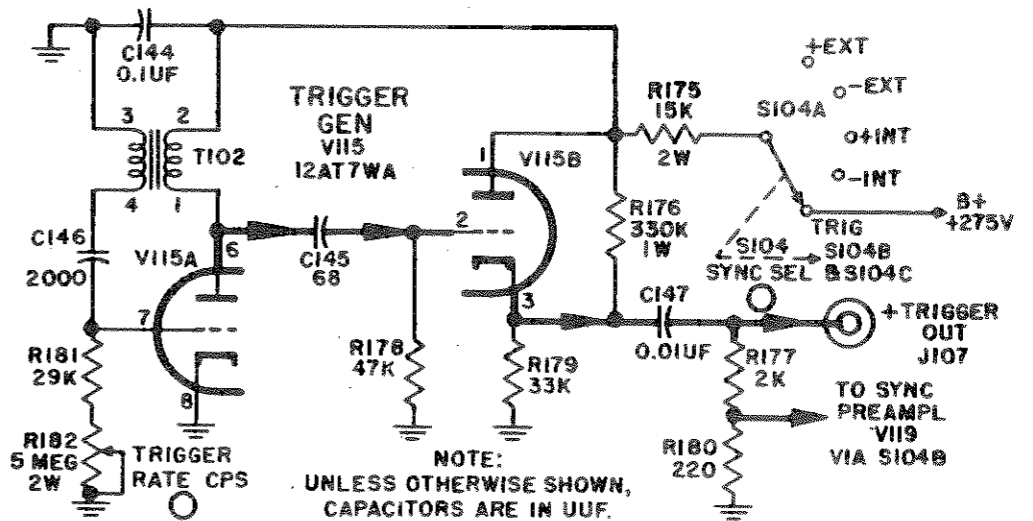

Figure 2-13. Trigger Generator, Simplified Schematic Diagram.
(5) TRIGGER GENERATOR (See figure 2-13) - This circuit uses a dual-triode type JAN12AT7WA, V115. It becomes active only when plate voltage is connected by placing the SYNC SEL switch S104 in TRIG position; at which time, sharp positive going output pulses of approximately 100 volts peak, having a rise time of 0.5 microseconds, continuously variable in frequency from 40 to 5000 cps by the panel-control TRIGGER RATE CPS, are available at jack J107 + TRIGGER OUT for the triggering of external equipment. A portion of output trigger pulse is introduced via SYNC SEL switch S104 to V119, Sync Preamp, in order to initiate the sweep circuits in proper synchronism. V115A is a triode blocking oscillator. Plate to grid feed-back through pulse transformer T102 drives the grid positive during half the cycle. Sufficient grid current flows into C146 during a small fraction of the half cycle to block further oscillation until the charge on the grid leaks off through R181 and the TRIGGER RATE CPS control R182. Thus the output of V115A is a series of sharp pulses whose repetition rate is governed by the setting of R182. Because of overshoot in T102 both positive and negative going pulses appear at the plate of V115A. These pulses are coupled via C145 to the grid of V115B which is biased sufficiently negative that only positive peaks are passed. These pulses appear across the cathode resistor R179 and are coupled by C147 to +TRIGGER OUT jack J107. Pulses for application to the Sync Preamp V119 are picked off at the junction of dividing resistors R177 and R180.